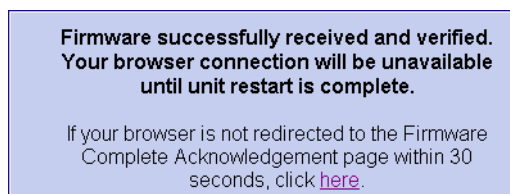

Figure 4-60 Firmware Received Message Box
6. When the firmware version is downloaded to the director and verified, this message box displays (Figure 4-60).